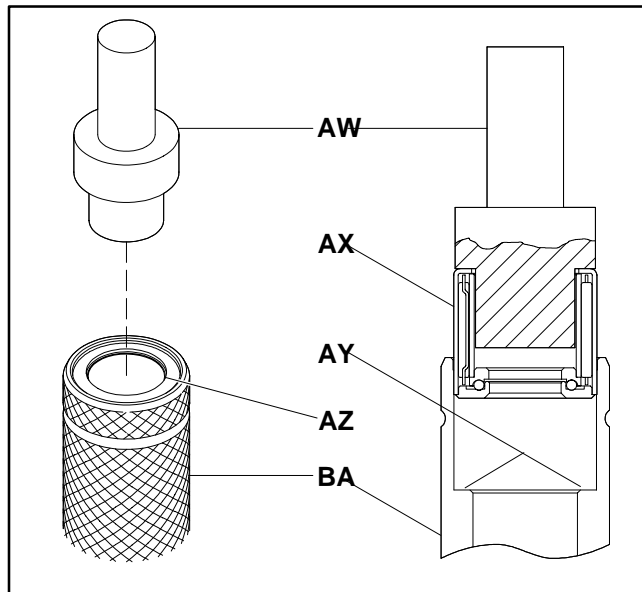

Figure 32
Use the following procedure to install pulley bearings (AX of Figure 32).
2. Install the bearing insertion tool (AW of Figure 32), part number † 25-10 in an arbor press or drill press. Then, align bearing insertion tool (AW) with pulley bore (AZ).
3. Slide bearing (AX) onto the bearing insertion tool (AW).